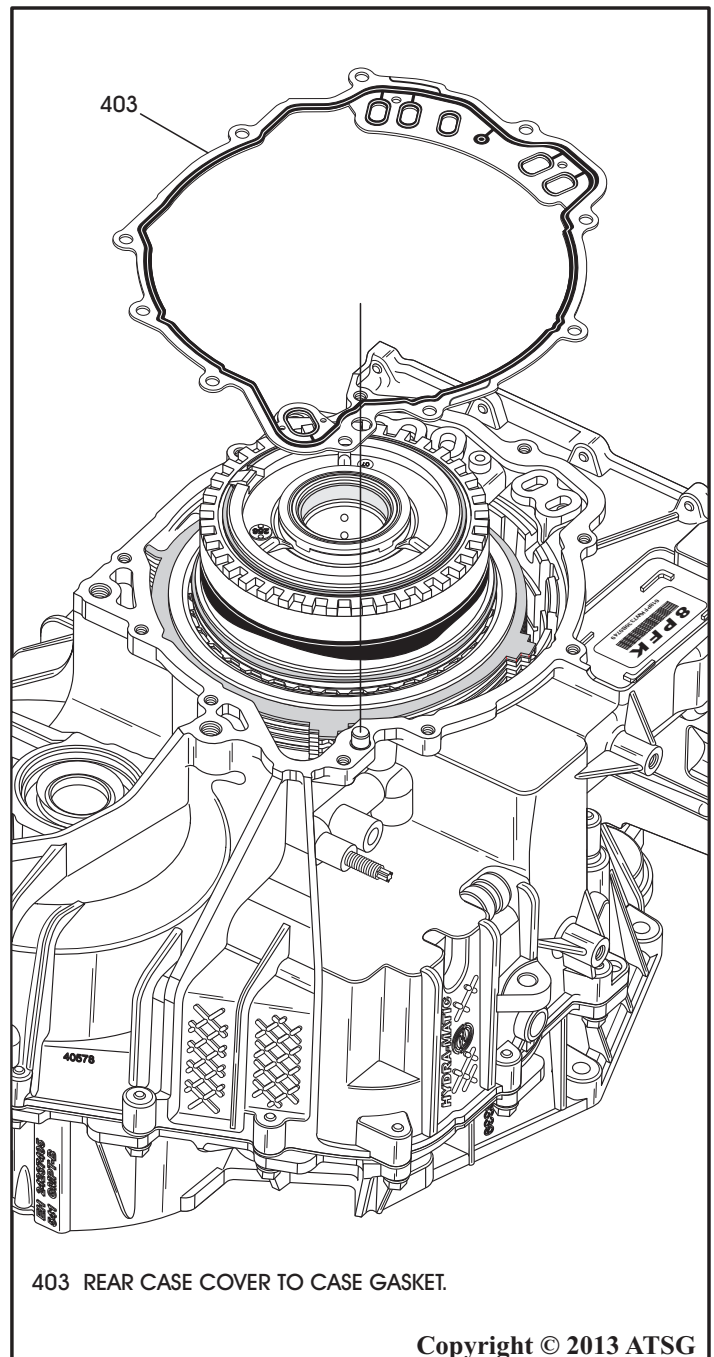

Figure 209
44. Install new rear cover to case gasket onto the case, as shown in Figure 209, and over the alignment dowel.